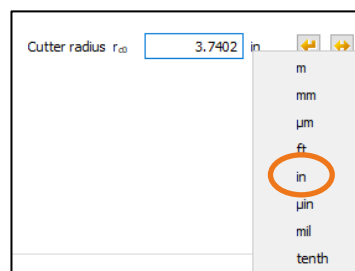

Figure 20. Switching the unit to «inch»
- Under «**Process**», select «**Face milling (single index method)**» as the manufacturing process and then input the «Cutter radius». We recommend you use the sizing function  to the right of the «Cutter radius» input field to get a suggested value for the minimum cutter tip size (in accordance with Klingenberg «Bevel gears», page 70) and then enter the cutter tip radius that was actually used, from Production. Click the right-hand mouse button to select the unit «inch»: this is usually used for Gleason cutters (see Figure 20).